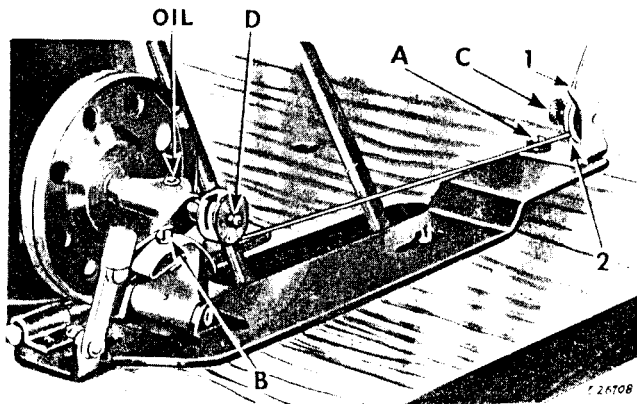

Fig. 5. Winding the Bobbin
5. Apply a drop of oil to the bobbin winder spindle every few weeks. See Fig. 5.
Place the bobbin on the bobbin winder spindle **D**, **Fig. 5** and push it on as far as it will go. Now pass the thread through the thread guide **I** in the tension bracket and around the back of and between the tension